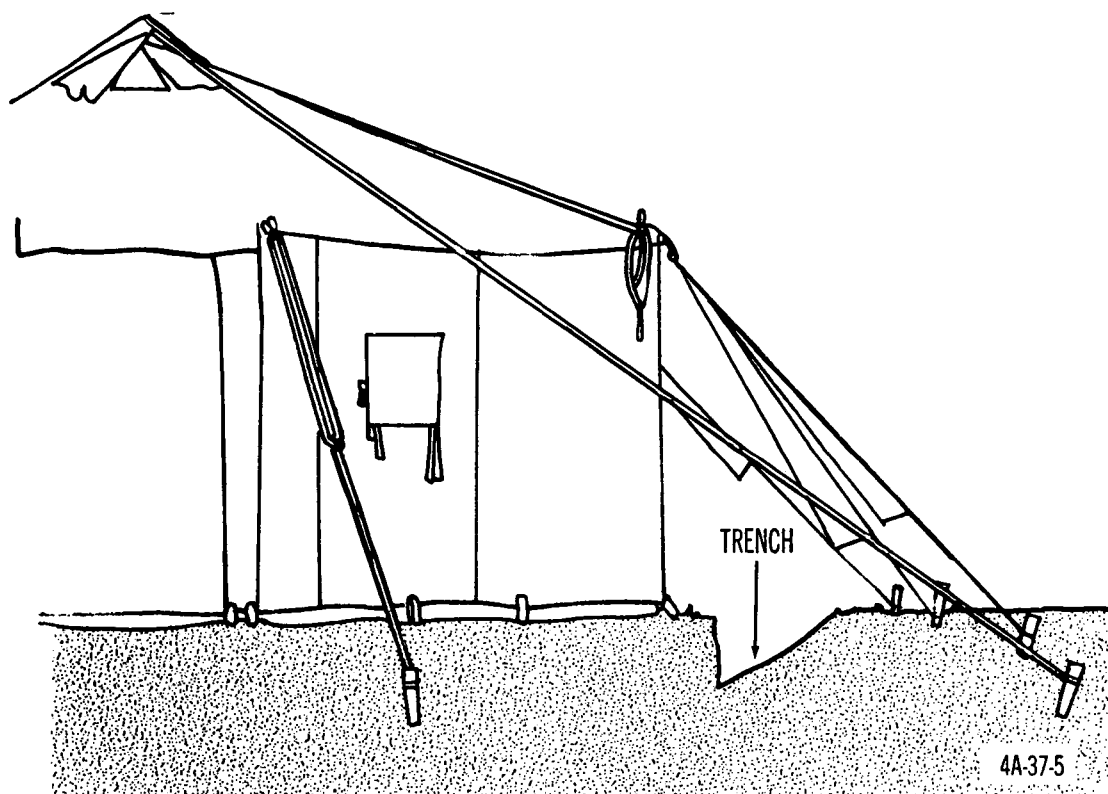

Figure 103. Cross-section view of tent trench.
(1) Each man must take care to brush all snow from his clothing and boots before entering a tent.
(2) One man should enter the tent first and take the sleeping bags, packs, and other articles from the other man after the items have been brushed off completely.
b. Dig trench all around the tent (fig 103 and 104). Cut straight down just outside footstop pins; do not dig in a V-shape. Slope the side away from the tent.